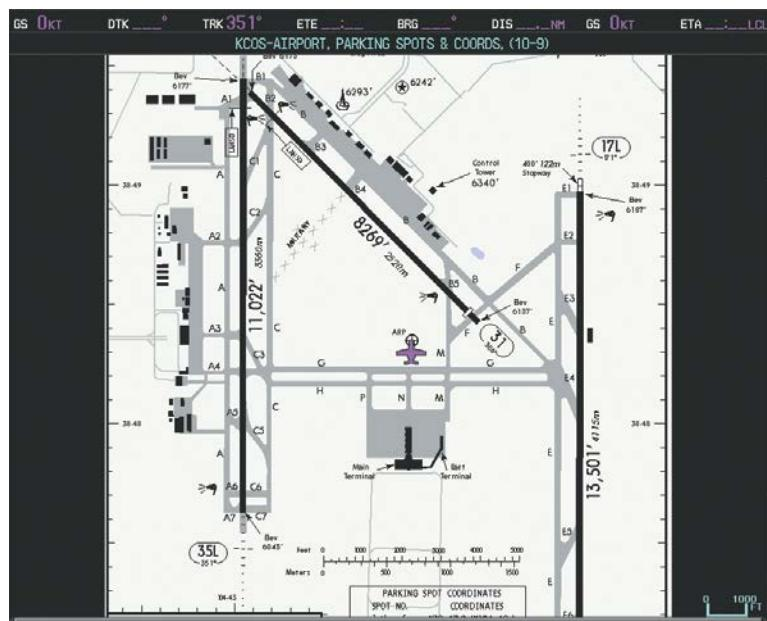

Figure 8-12 Airport Chart for Selected Airport
- 3) Touch the **Airport Chart** Button. The **Info** Tab selections are displayed on the Touchscreen Controller (Figure 8-9) and the Airport Diagram is displayed on the selected Display Pane (Figure 8-12).